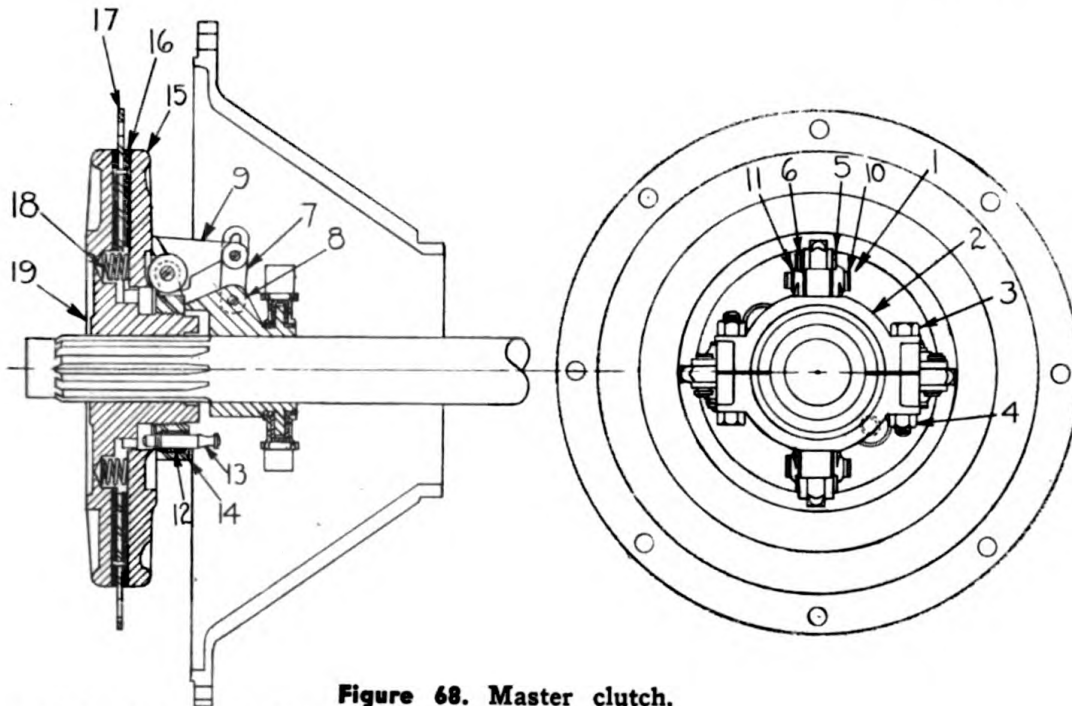

Figure 68. Master clutch.
Remove hand hole plate on the clutch housing and turn the clutch until the adjusting lock pin (13) Figure 68 can be reached. **CAUTION:** Be sure that the engine is not running. Pull the lock pin out and turn adjusting yoke (14) one notch to the right, allowing the lock pin to drop into the notch. One notch is usually sufficient to adjust the clutch. A new clutch requires more frequent adjustment until the friction discs (16) are worn in.